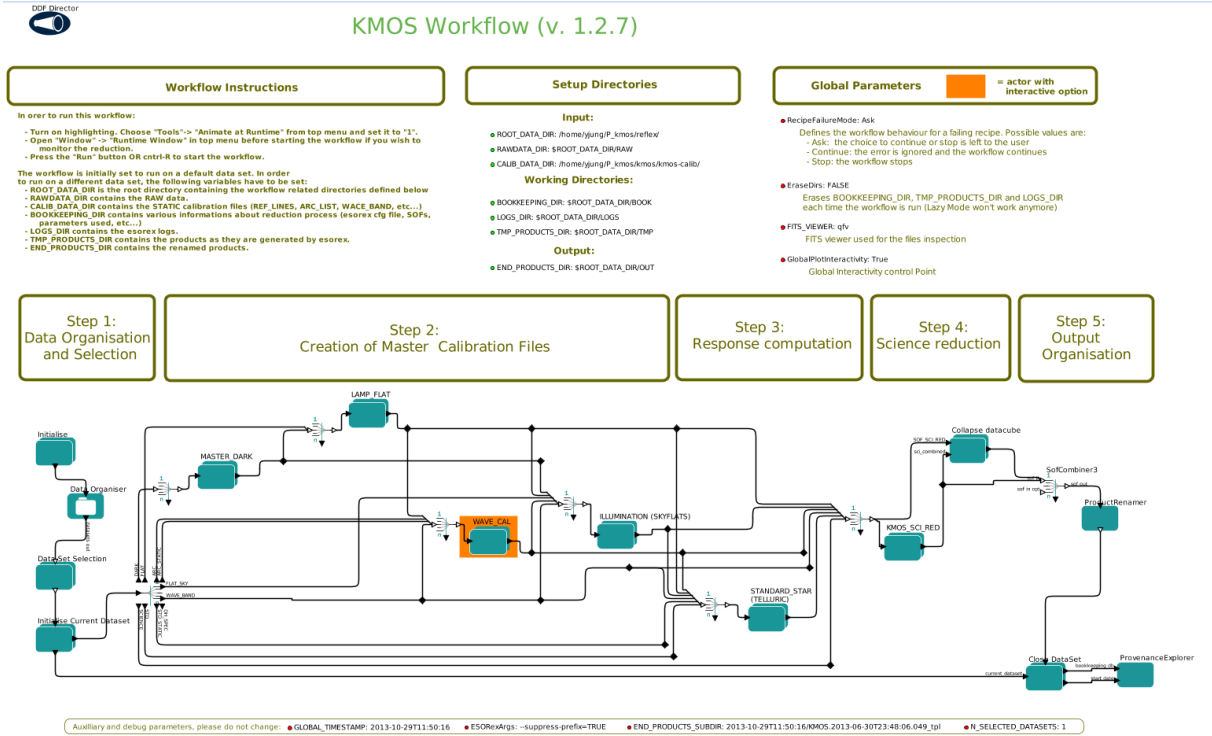

Figure 4.2: KMOS workflow general layout.
2. Now open the KMOS workflow by clicking on **File** -> **Open File**, selecting first `kmos-1.2.6` and then the file `kmos.xml` in the file browser. You will be presented with the workflow canvas shown in Figure 4.2. Note that the workflow will appear as a canvas in a new window.